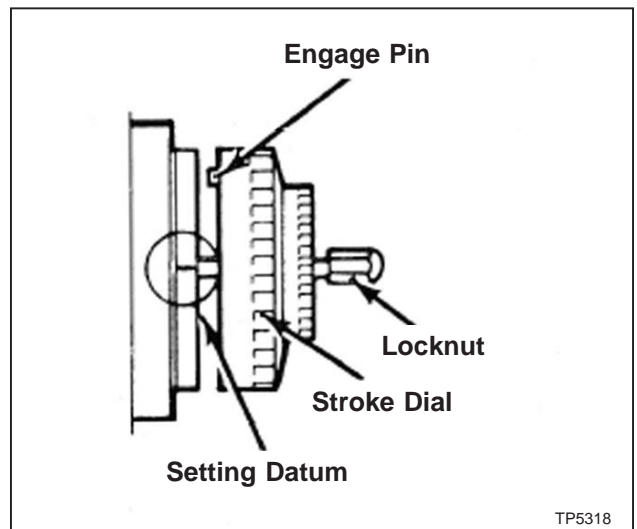

Figure 2.34 - Changing E-Head Stroke
1. Loosen locknut (see Figure 2.34).